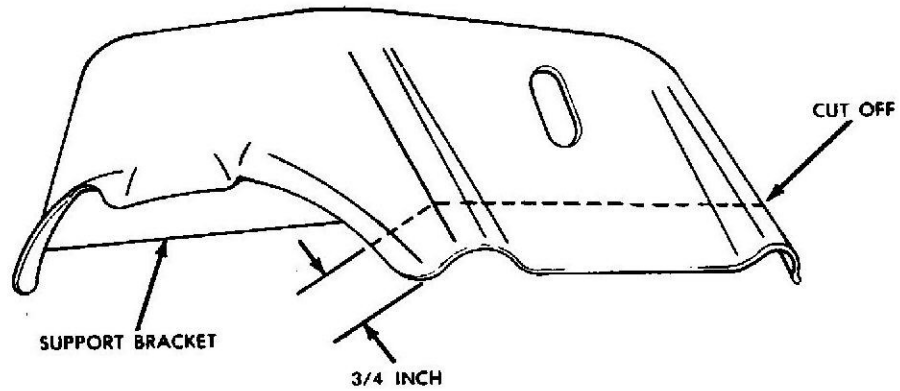

Fig. 2 Right Front Engine Support Bracket
- (8) Measure 3/4 inch from front edge of support bracket and scribe a mark (Fig. 2).
- (9) Cut off marked edge of bracket. Remove rough edges.
- (10) Install support bracket. Tighten nuts to 37 foot-pounds torque.
- (11) Install support cushion. Tighten cushion attaching bolts to 37 foot-pounds torque.